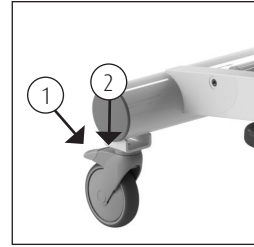

Figure 1. Wheel blocking.
- The brake can be applied on the shower trolley by pushing the blue lip (1) on the wheel downwards (See figure 1).
- In order to take the shower trolley off the brake, the same lip on the wheel must be moved upwards by tapping the upper side of the lip (2) (See figure 1).